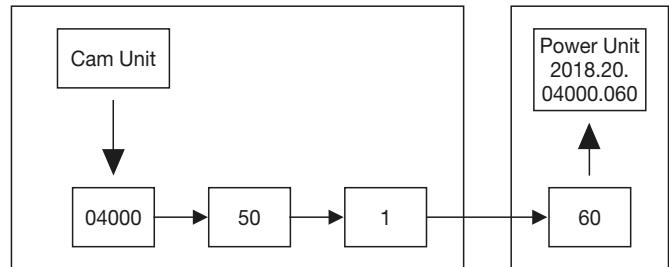

Fig. 1: Selection for example 1
**Example 1 (Fig. 1):** A Power Unit 2018.20.04000.060 is provided as standard for a Compact Cam 2018.11.04000.049. The nominal stroke of the Power Unit is 60 mm. The transmission ratio is 1:1. The stroke of the Compact Cam is thus performed at the same speed as the press.